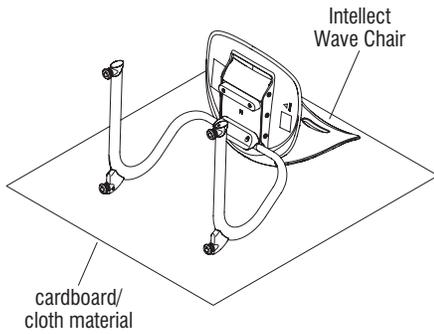

Figure 1
1. Place frame onto a soft protective surface on its back side, and position cardboard or cloth material under the frame to catch plastic shavings when drilling (Figure 1).